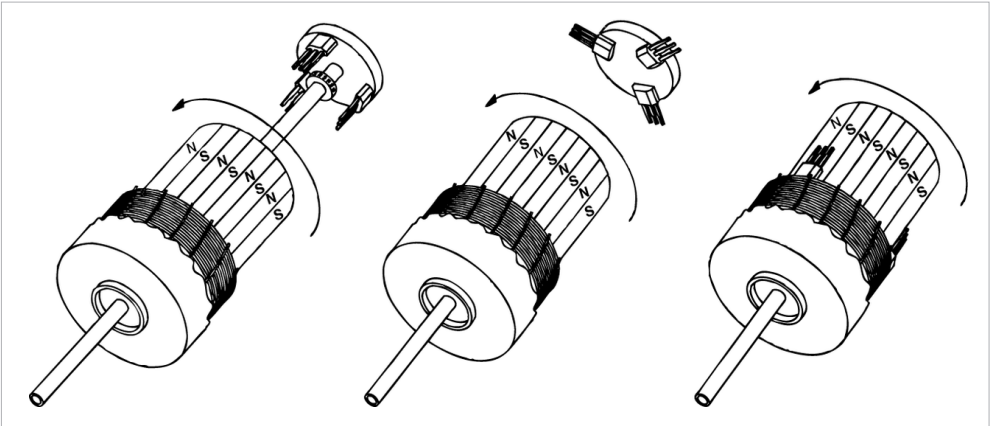

Figure 1: Hall-effect sensors can mount in three locations: inside the motor, at the end of the motor's shaft, and around the rotor shaft's ring magnet.
The Hall-effect sensors can mount in any one of three locations in the motor to measure correctly the motor's position. They may mount inside the motor, at the end of the motor's shaft, and around the rotor shaft's ring magnet (**figure 1**). Their job is to determine when to apply the current to the motor coils. This data communicates to the electronic controller to rotate the magnet at the right time and orientation. When selecting a bipolar latching Hall-effect sensor to commutate the motor, BLDC-motor manufacturers need to evaluate
**Figure 1: SEPIC power stage** than of a flyback. There is a resonant circuit consisting of the inductor L1, capacitor Cs and inductor L2 (**figure 1**). This circuit adds an additional double pole and a second right half plane zero to the power stage's transfer function. In many cases this is not a problem, because the affect depends on the quality factor of the LCL-network. If the quality factor is low, then the designer can compensate the SEPIC like a flyback converter.